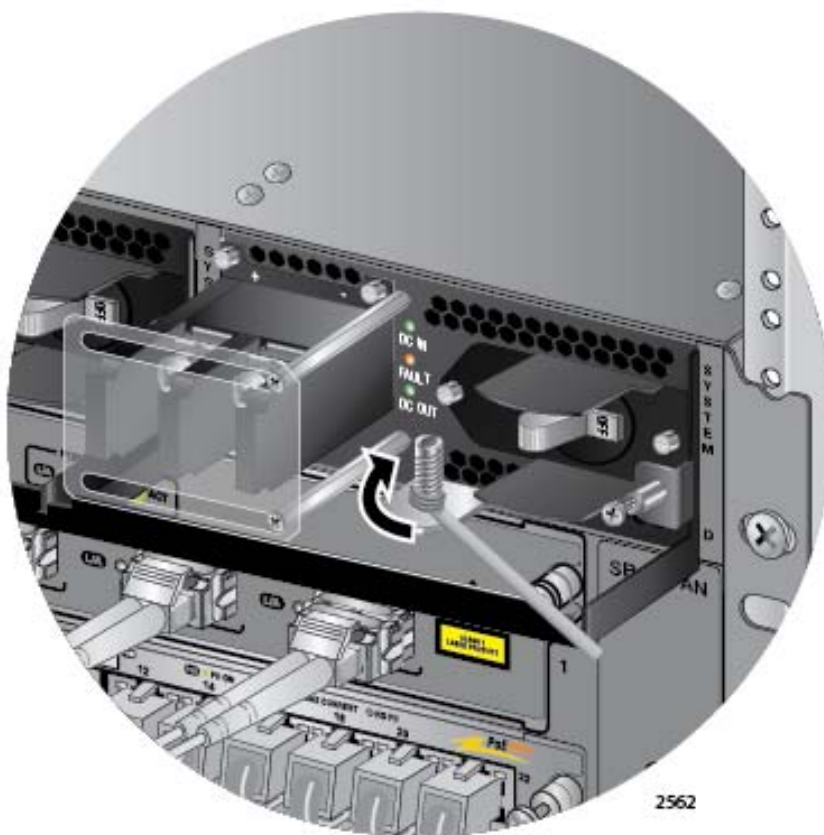

Figure 130. Attaching the Bare Grounding Wire to the Grounding Post
3. Wrap the grounding wire clockwise around the base of the grounding post, as shown in Figure 130.